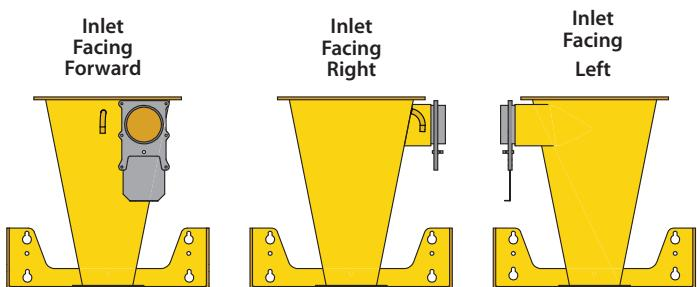

FIG. 11
The Cyclone (E) can be rotated so that the inlet is facing parallel or perpendicular to the wall. Decide how you want your system oriented [FIG. 11].